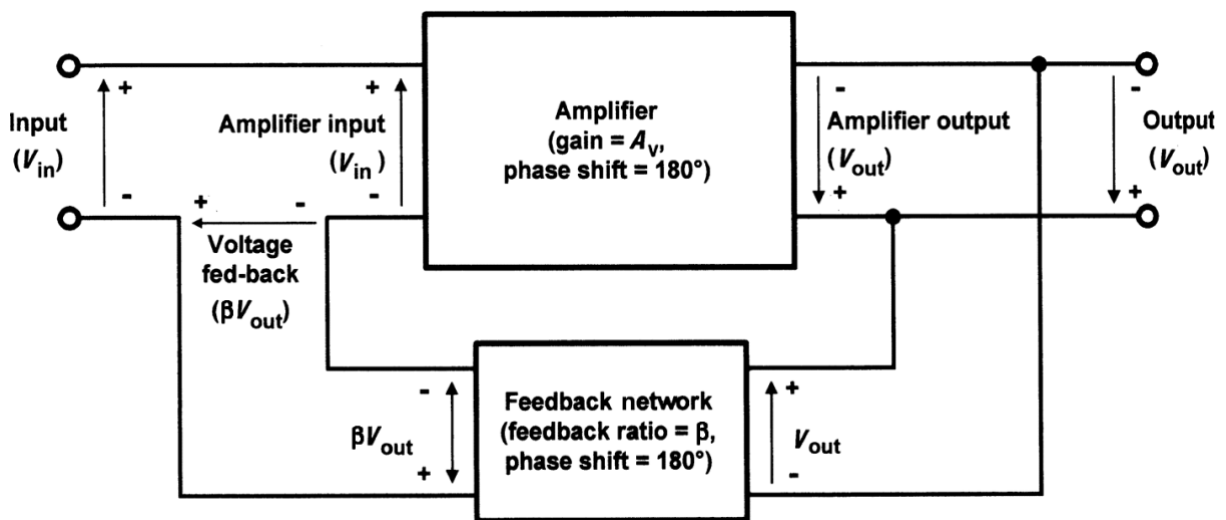

Figure 1.50 Amplifier with positive feedback applied
- Fig. 1.50 shows the block diagram of an amplifier stage with positive feedback applied.